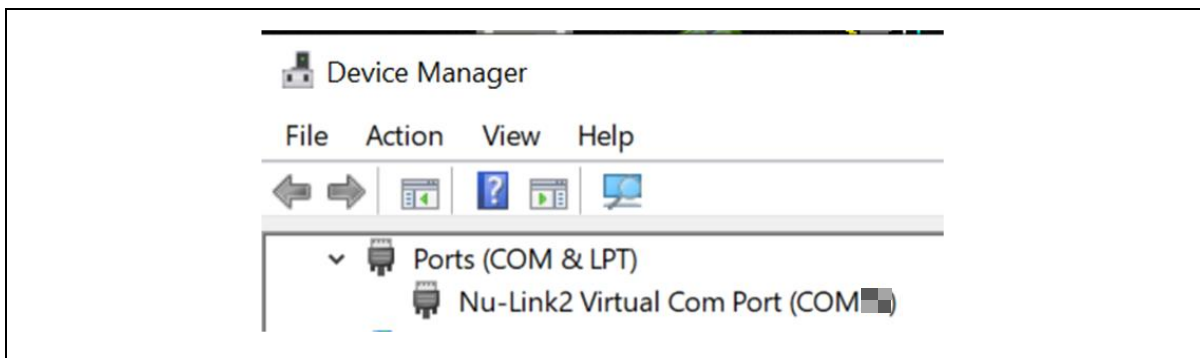

Figure 4-5 Device Manager
- Find the “Nuvoton Virtual COM Port” on the Device Manger as Figure 4-5.